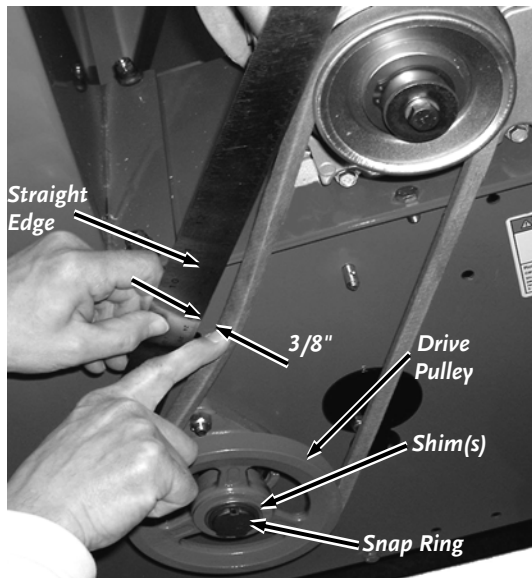

Figure 15
2. The Belt should deflect 3/8" under approximately three pounds of pressure as shown in **Figure 15**, if it doesn't, adjust per the following directions.
6. Turn the Adjust Nut in to tighten or out to loosen for the correct Belt deflection (**Figure 15**).
- b) Using a Straight Edge, align the Drive Pulley (**Figure 18**) to be parallel with the Belt, by moving the Drive Pulley in or out on the Rotor Shaft (**Figure 15** on page 18).
NOTE: If the Drive Pulley cannot be moved in or out enough to obtain parallelism, you will have to swap the shims behind or in front of the Drive Pulley. This will necessitate removing the Belt and the Snap Ring on the Rotor Shaft (**Figure 15** on page 18), swapping the shims and reinstalling the Drive Pulley, Snap Ring and Belt. Once you have obtained parallelism, continue with step c).